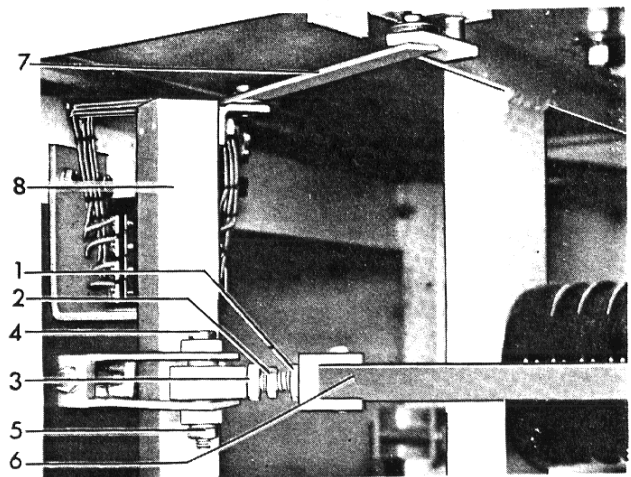

Figure 12. (8039294) Operating Rod
Refer to Fig. 21. With the breaker closed, press the manual trip button allowing the breaker to open normally. The gap between the primary contacts should be $3/4" + 0 - 1/32"$. Indicator (4) moves with the contact rod of the interrupter and can be used to measure the contact gap. Mark the indicator with a pencil where the pointer (1) indicates. Close the breaker by the manual closing wrench and measure the distance from the pointer to the pencil mark. To change the contact gap the operating rod adjustment screw (2) Fig. 12 is used. Loosen nuts (1) and (3) and turn the hex center of the double ended adjustment screw to increase or decrease the gap. One full turn will close or open the contact gap approximately $1/8"$. Tighten the locking nuts and remeasure the gap after closing and tripping the breaker.
To adjust the contact wipe loosen the operating rod bolt (4) Fig. 12 and move the rod toward the square shaft to decrease wipe and away from the shaft to increase wipe. Be certain the serrated washers (5) are seated properly before tightening the bolt. Close the breaker and remeasure the gap at the spring guide.